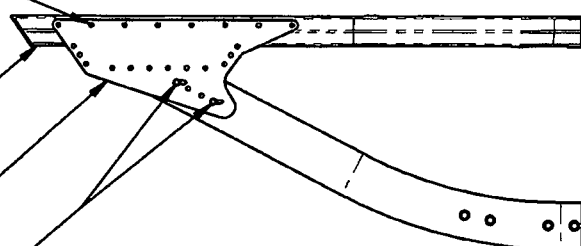

FIGURE 2: DSI 9670-011 CONFIGURATION
2.1.3 Install Mid Step Leg Assembly D4964-041 using qty (16) NASM20600AD4W4 rivets, (8 per side). See Figure 2.
FOR D350-591-121/-122 High Skid Step Assembly (FIGURE 2)